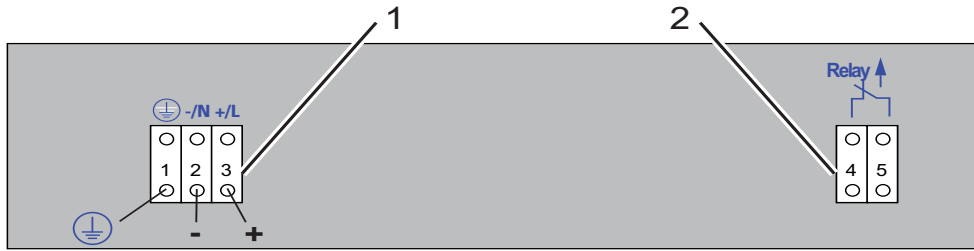
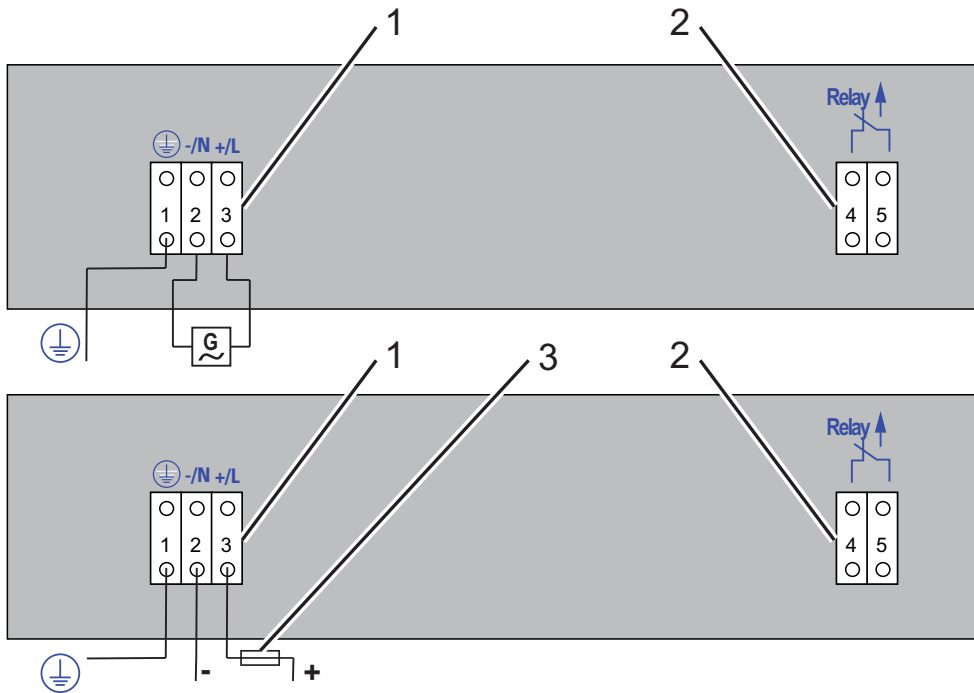

Figure 11: Back of MACH 1000 device with power unit "C",
Figure 12: Back of MACH 1000 device with power unit "G",
Install a suitable external fuse in the supply voltage input line of the plus terminal (see fig. 12).
- with terminal voltage supply (see fig. 11), (see fig. 12)